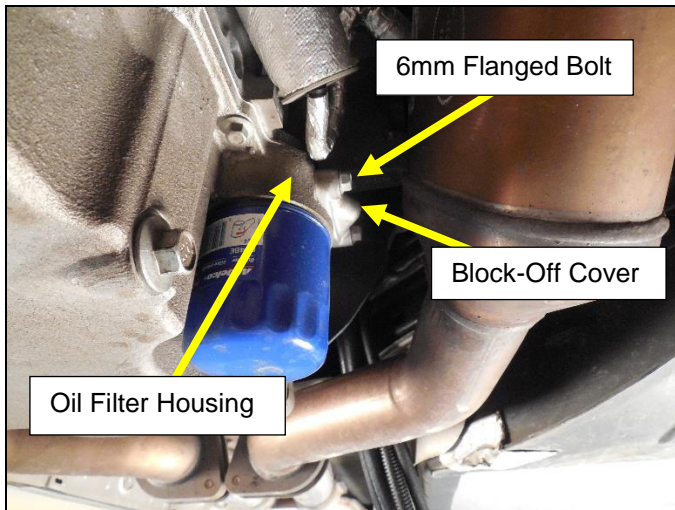

Figure 33
1. Remove the 6mm bolts from the oil cooler adapter block-off cover or oil cooler adapter at the oil filter housing (**Figure 33**).